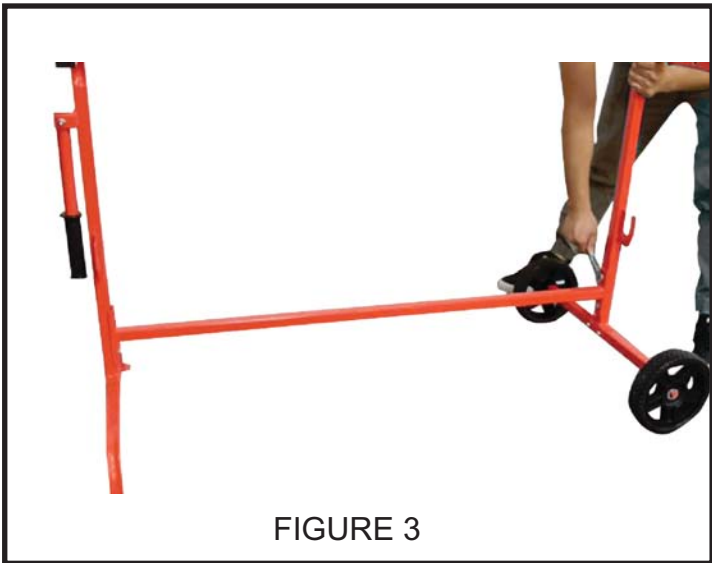

FIGURE 3
- 3) Assemble rear brace (3) to the assembled wheel assembly shown in figure 3, using (12 & 15) bolts. Assemble front brace (4) to front pole using (12 & 15) bolts also as shown in figure 3.
- 4) Assemble bottom pole (7) between the front and rear brace assemblies using (13) bolts as shown in figure 3.